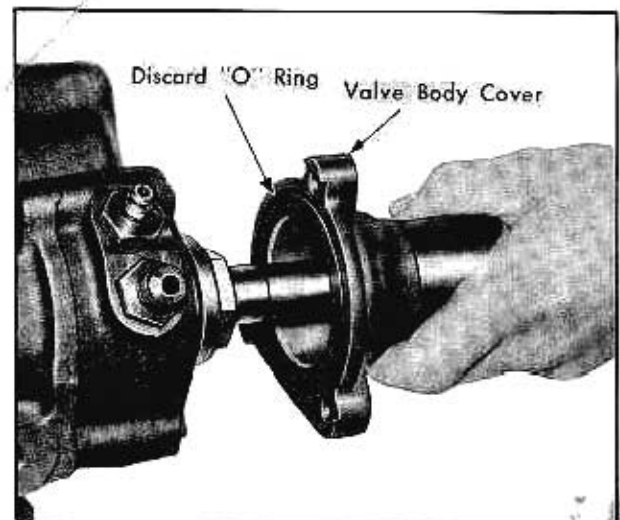

Fig. 7-23 Removing Valve Body Cover
4. Remove three valve cover to gear housing screws, and remove valve cover with "O" ring seal. Discard "O" ring. Fig. 7-23.